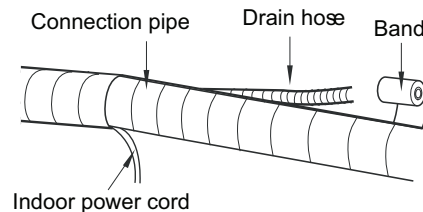

Fig. 15
- (2) Reserve a certain length of drain hose and power cord for installation when binding them. When binding to a certain degree, separate the indoor power and then separate the drain hose. (As show in Fig.15)
- (3) Bind them evenly.
- (4) The liquid pipe and gas pipe should be bound separately at the end.